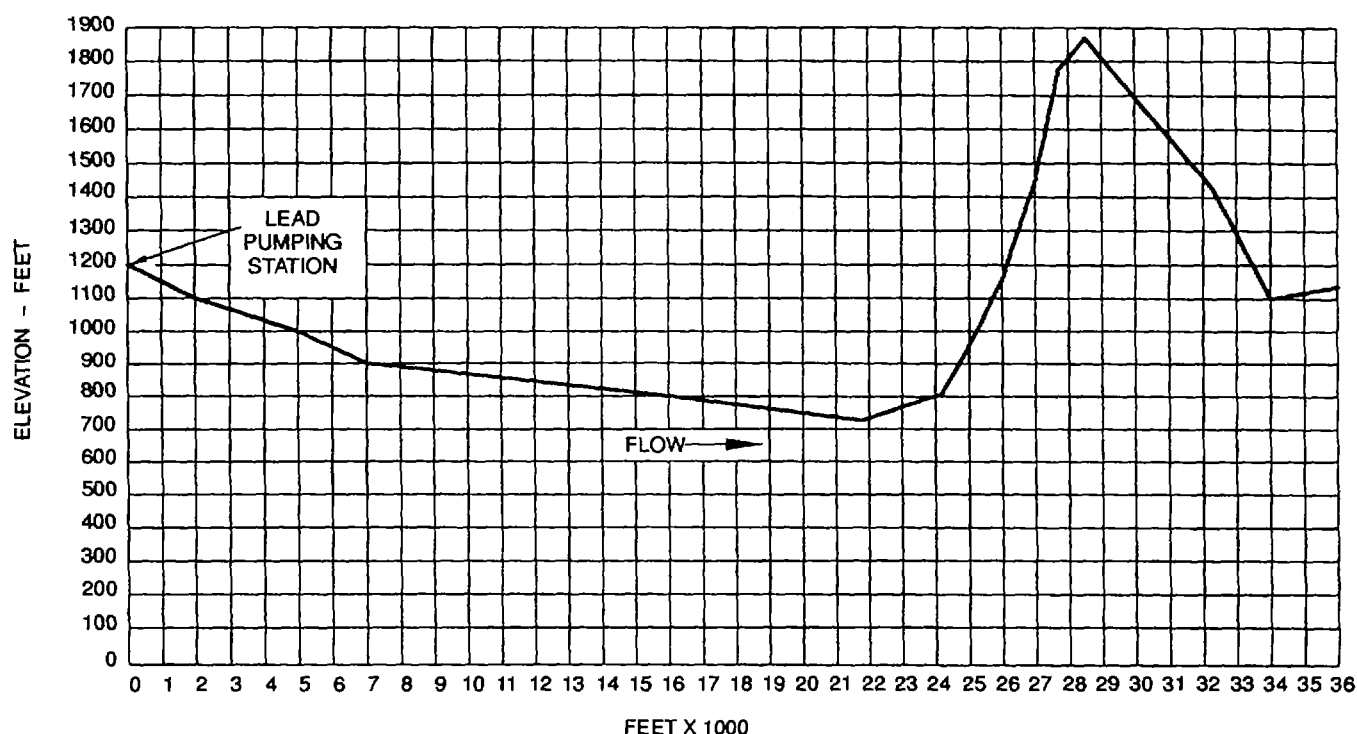

Figure 2-2. Ground Profile Graph
- (1) If the next downline pumping station is substantially higher in elevation than the upline pumping station, the distance between them must be shortened.
- (2) If the next downline pumping station is substantially lower in elevation than the upline pumping station, the distance between them must be lengthened.
- g. Ground Profile. A ground profile (drawn on graph paper) and a pump spacing triangle can be utilized to determine the location of each boost pumping station. To construct a ground profile, first obtain a topographical map or other source material which provides accurate information concerning terrain along projected hoseline route. Then, using this information, draw a ground profile (see Figure 2-2) of the hoseline route on graph paper as follows:
- (1) Divide the horizontal base of the graph into spaces that represent uniform distances, such as 1000 ft (305 m) intervals. However, any suitable scale can be used. The base of the graph represents the horizontal distance that the hoseline will cross.
- (2) Divide the vertical, left-hand edge of the graph into spaces that represent uniform changes in elevation, such as 100 ft (30.5 m) intervals. Again, any suitable scale can be used. However, the scale must include at least the highest and lowest elevations along the hoseline route.
- (3) At the left-hand edge of the graph, mark a point that represents the elevation of the lead pumping station.
- (4) Continuing across the graph, mark points where significant changes in elevation occur along the hoseline route.
- (5) To complete the ground profile, join the points marked on the graph with a straight line.